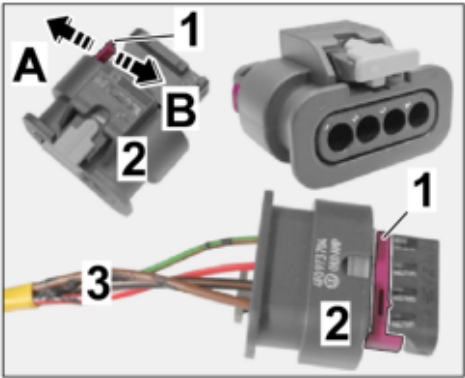

Figure 32
3.4.1 Release the socket housing (4-pin, see parts list). ⇒ Figure 32 -A-
3.4.3 Lock the socket housing (4-pin, see parts list). ⇒ Figure 32 -B-